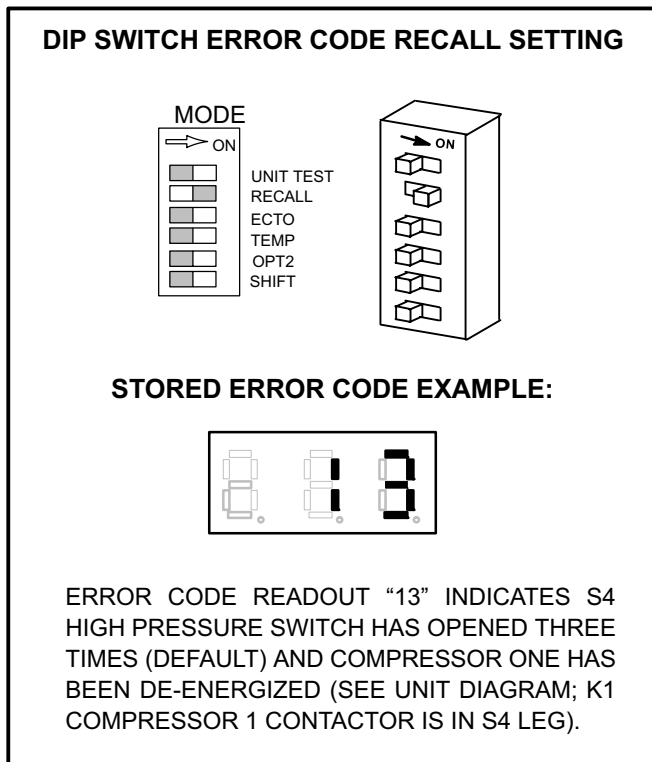

FIGURE 15
To read stored error codes set MODE DIP "RECALL" to "ON". See figure 15.
- 1-Set MODE DIP "RECALL" to "ON". See figure 15.